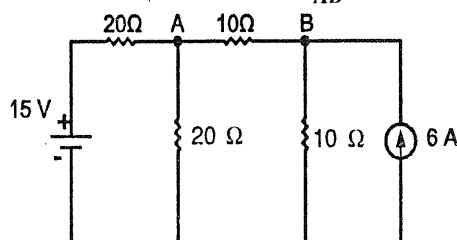
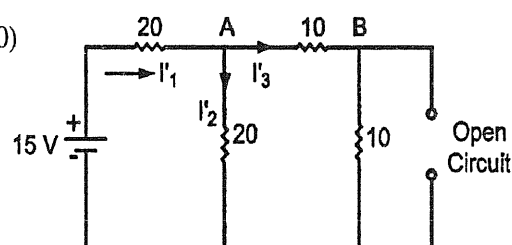

FIG. 1.98
FIG. 1.99 : CIRCUIT WITH 15 V SOURCE
Using Superposition theorem, calculate the current I_{AB} in the given circuit of Fig. 1.98.
- The network of Fig. 1.98 is reduced to that shown in Fig. 1.99.